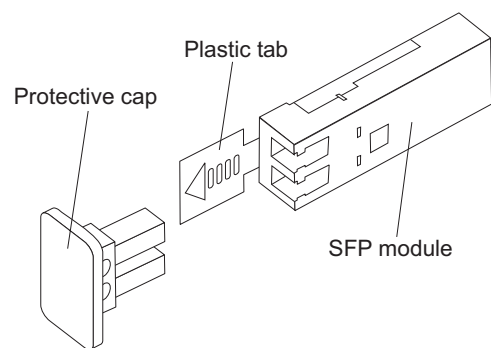

Figure 28. SFP module and protective cap
2. Remove the protective cap from the SFP module, as shown in Figure 28. Save the protective cap for future use.
2. If necessary, remove the protective cap from the SFP module, as shown in Figure 28 on page 49. Save the protective cap for future use.